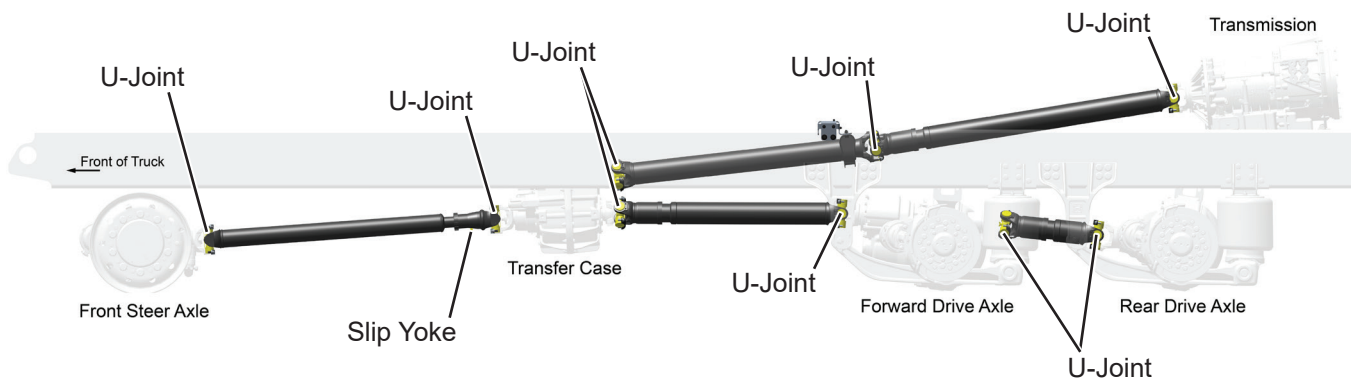

Figure 1 - Driveline Lubrication Points
3. Locate grease zerk fitting on U-joint cross. See Figure 1.
8. Locate grease zerk fitting on the 1710 steer axle shaft slip yoke. See Figure 1.